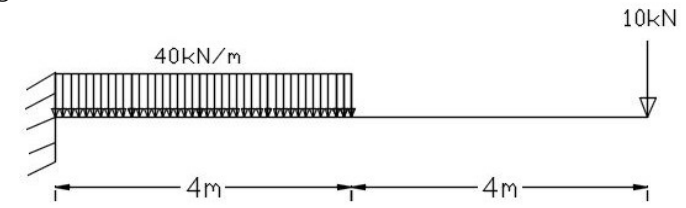
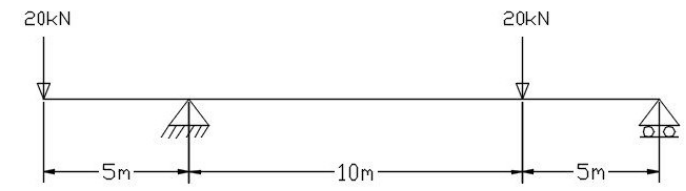

Fig. 3
Fig. 4
- 5. Construct the shear force and bending moment of the following beams shown in Fig.3 and Fig.4.